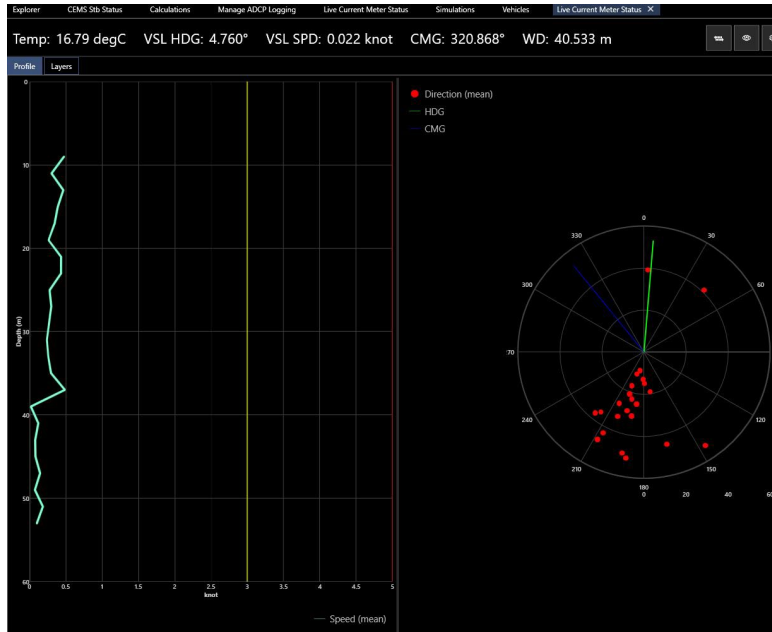

FIGURE 18-35 ADCP PROFILE WINDOW - PROFILES TAB
- **Profiles Tab:** On this view, the current magnitude vs depth profile is shown in the chart on the left and current direction on the right, see Figure 18-35